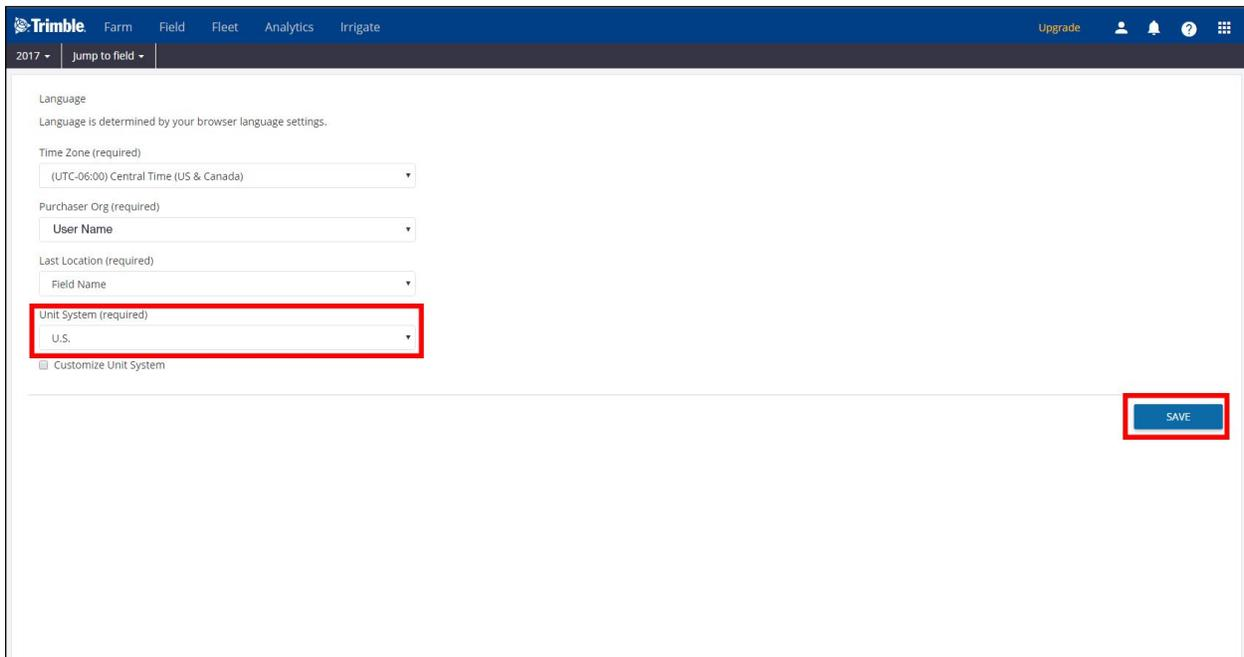

Figure 4-2
2. In the Unit System field, select your unit of choice from the drop-down menu. Refer to Figure 4-2.